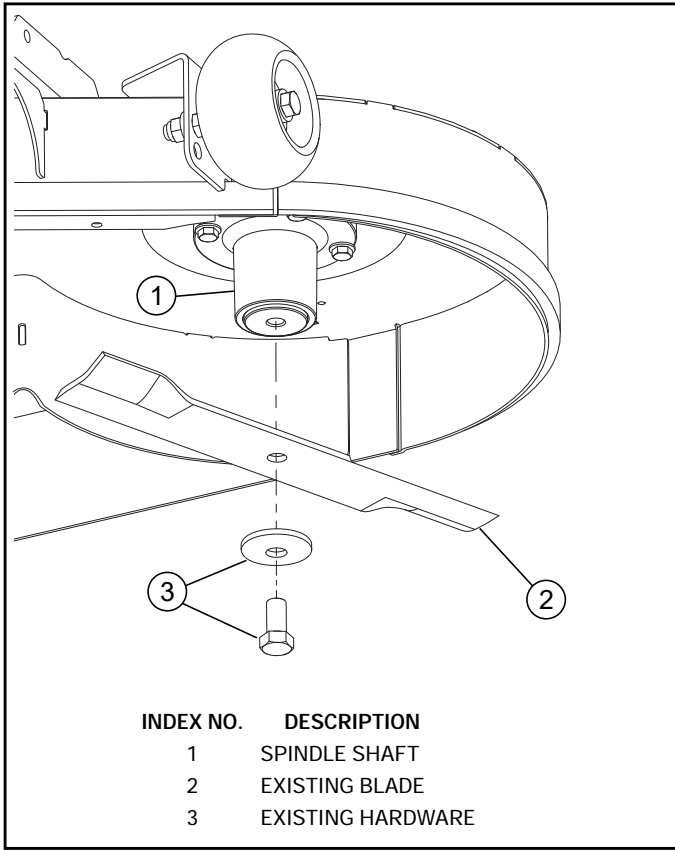

FIG. 1
3. Remove the existing blades. Retain the hardware. Fig. 1